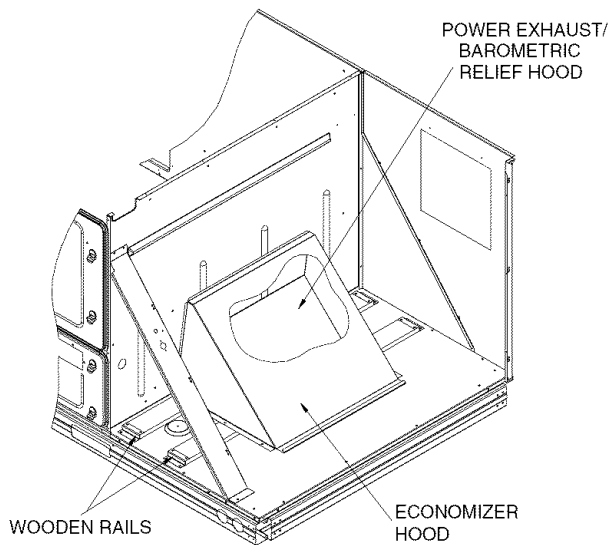

Fig. 14 — Economizer and Barometric Relief/Power Exhaust Hoods Shipping Positions
1. Economizer and barometric relief hoods are located in the condenser section under the slanted coil for shipping. See Fig. 14. Barometric relief/power exhaust hood is shipped inside of economizer hood. Remove screws that secure the wooden rails of the hood assemblies to the unit. Save screws. Slide complete assembly from condenser section.